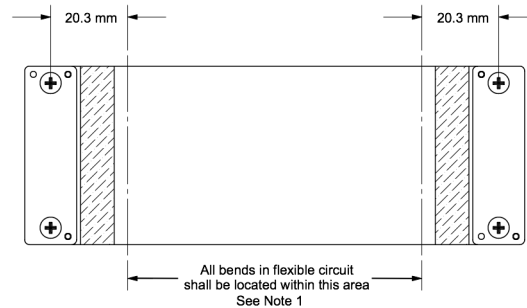

Figure 1-7. Flex Cable Diagram
- Bending the cable outside the area identified in Figure 1-7 (within 20.3 mm of connector plate centers).